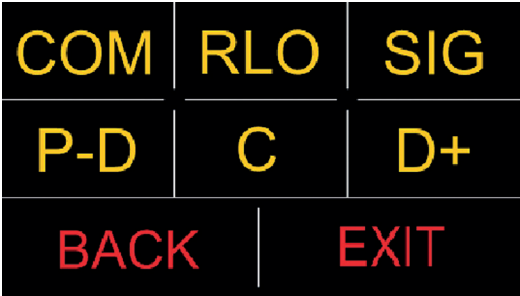

Fig. 6. MS012 COM Voltage regulator tester – voltage regulator terminals menu
Button used to activate the testing mode of 12V voltage regulators, which is located on the sensor display. Menu of terminals for a voltage regulator appears on pressing the button (Fig. 6).
- **BACK:** return to the previous menu (Fig. 6).
- **BACK:** return to the previous menu (**Fig. 6**).